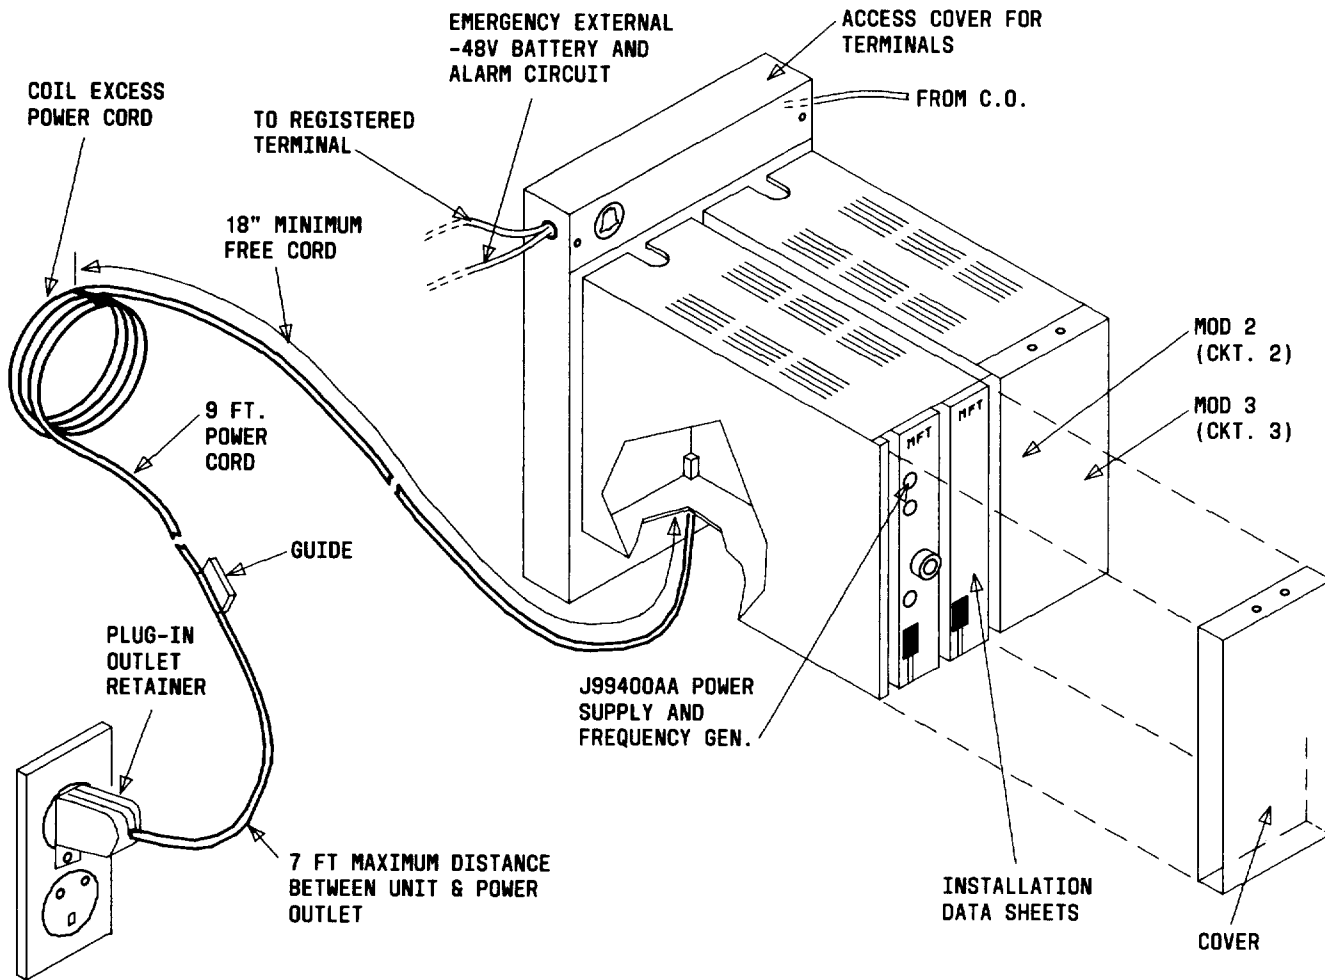
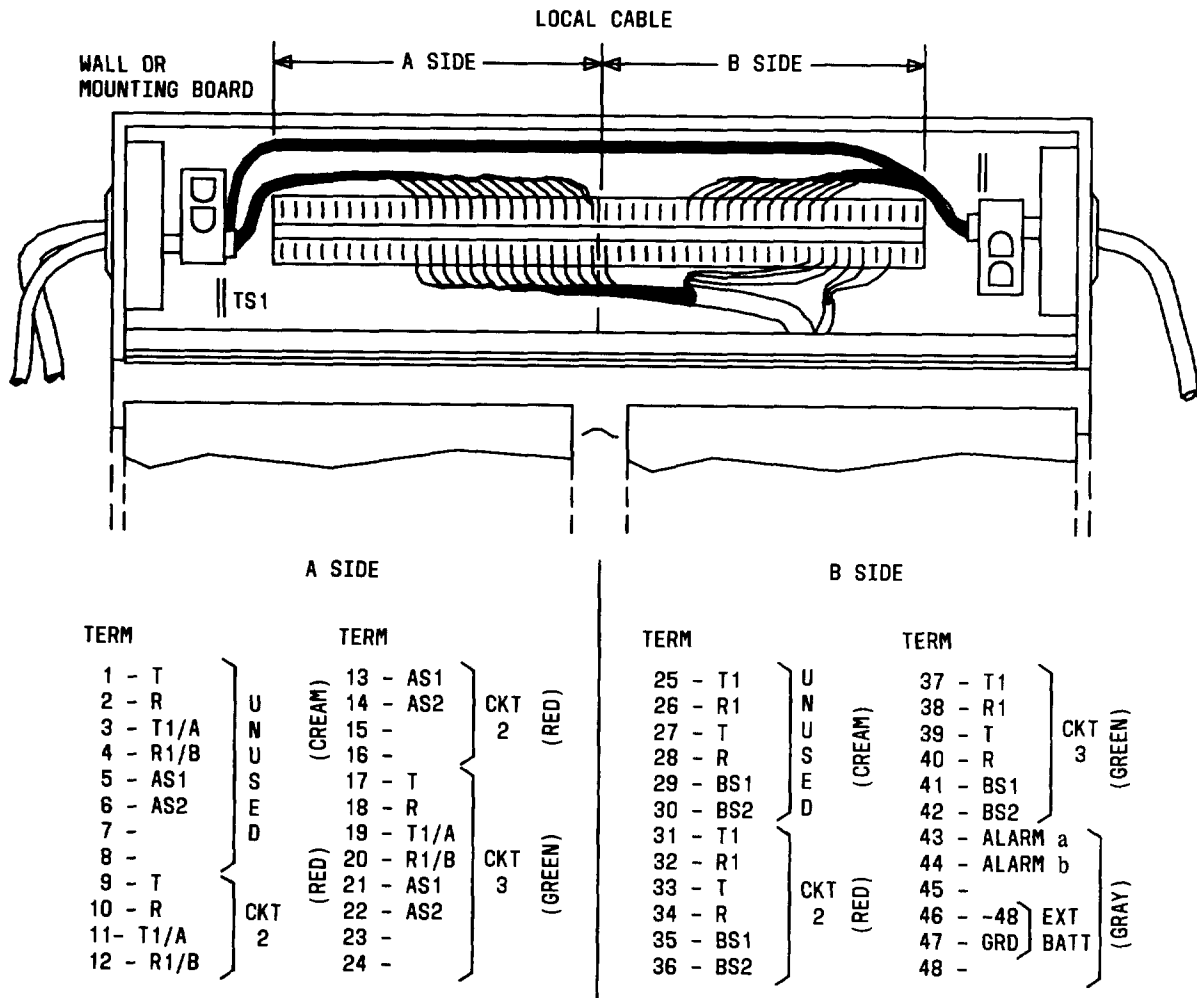

Fig. 1—Typical Layout of J99400A Housing Assembly
Fig. 2—Lead Designation and 94-Type Connector
**1.03** The J99400A PMFTA Housing shown in Fig. 1 accommodates up to two Metallic Facility Terminal (MFT) plug-in units. The assembly also provides plug-in slots for both the J99400AA Power Supply/Frequency Generator and the ED-7C223 Group 1 Installation Data Sheet module. More detailed descriptive information on this assembly is given in Section 332-610-101.
**2.02** Basic installation of the housing requires mounting it to a proper wall mount, making interface lead connections, and providing access to a 117 Vac power outlet. Figure 1 gives the basic layout of this assembly. Figure 2 is the lead plan of the 94-type interface connector. Chart 1 is the installation instructions.
- 1 This J99400A Housing Assembly (Fig. 1) must be located within 7 feet of a 117 Vac outlet unless an extension cord is used. The ac power shall not be connected until installation is completed.
- 4 To access the local cable 94-type connector mounted at the top of the J99400A Housing Assembly mounting plate, remove the terminal access cover by (1) loosening the two screws on the top of the mounting plate, (2) slipping the cover equipped with keyhole mounting slots forward, and (3) lifting the cover upwards and over the screwheads.
- 5 Leads shall be installed in accordance with Fig. 2 using an R-4710 impact tool. Wiring sizes that may be terminated on the 94-type connector are 22, 24, and 26 gauge. Functional designations are marked beside each 94-type connection terminal (punching). All functional designations of a given circuit are marked on the same color background, with the adjacent circuit functional designation marked on a different color background. The 94-type connector color-coded backgrounds correspond to color-coded circuit designation decals located on the mounting plate under each circuit module position. Circuit function should be marked on the decal by the installer under the circuit designation. Registered terminal equipment wiring along with optional alarm and external battery wiring access the assembly from the left (facing), whereas, the central office wiring accesses the assembly from the right (facing). Secure strain relief clamp tightly around the cabling at each end of the 94-type connector (Fig. 2).
- 8 The ac power cord should be restrained by cable guides at approximately 1-foot intervals between unit and power receptacle. However, at least 18 inches of free cord extending from the bottom of the unit is required so that a test extender can be used for power supply maintenance. Any excess ac power cord should be coiled and restrained as shown in Fig. 1. The test extender, if supplied, is stored in a separate holder.
- 9 Plug in the 117 Vac power cord and install power plug retaining clamp to the 117 Vac outlet as shown in Fig. 1.
- 4 Spare fuses for the J99400AA power supply/frequency generator are located on the J99400A Housing Assembly terminal access cover (Fig. 1).
- 2 To install a replacement connector in the plastic housings, reverse the 928A connector replacement instructions. Be sure to reinstall the 117 Vac plug retainer on the power receptacle as shown in Fig. 1.